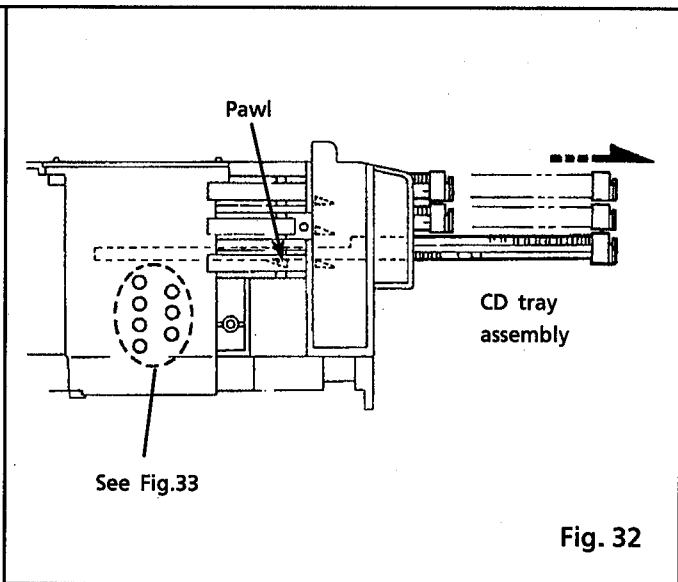

Fig. 32
11. Check that the driver unit elevator is seen from a hole (marked ⑨) on left side of the CD changer mech..(See Fig. 32 and 33.)
13. And, pull all 3 CD tray assemblies forward until they stop. (See Fig. 32.)